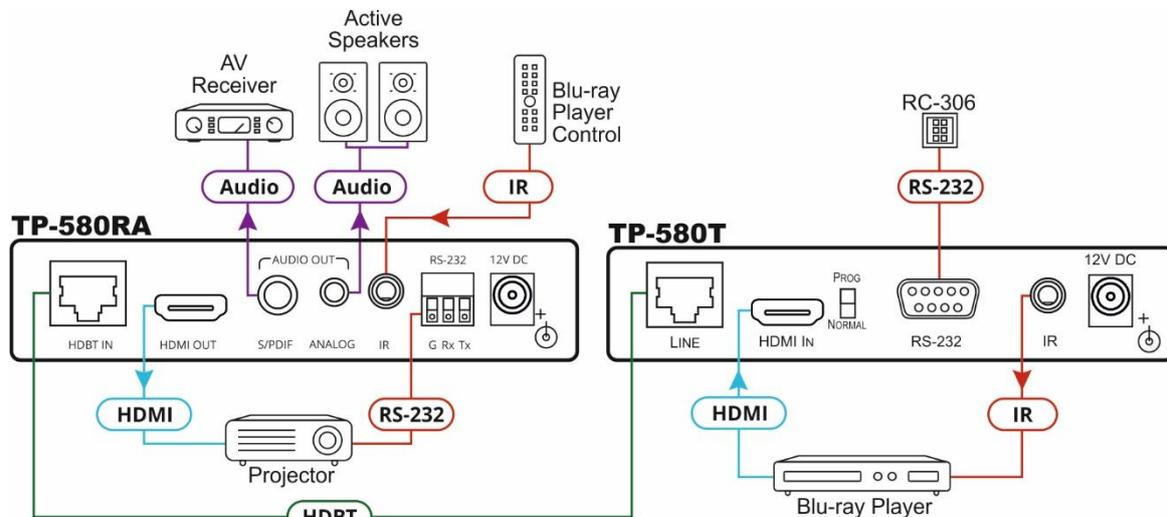

Figure 2: Connecting the TP-580RA HDMI Line Receiver
You can use the **TP-580RA HDMI Line Receiver** and a compatible transmitter, (for example, the **TP-580T HDMI Line Transmitter**) to configure an HDMI transmitter/receiver system, as shown in the example in Figure 2.
1. Connect the HDMI OUT connector (8) to the HDMI acceptor, (for example, a projector).
2. Connect the RS-232 3-pin terminal block (12) to the device to be controlled, (for example, the projector that is controlled by the **RC-306**).
3. Connect the IR 3.5mm mini jack (11) to an IR sensor.
4. Connect the AUDIO OUT (10) 3.5mm mini jack and/or AUDIO OUT S/PDIF (9) connector to the audio acceptors (for example, amplified speakers).
6. Connect the supplied power adapter to the 12V DC Power Connector (13) and plug the adapter into the mains electricity (not shown in Figure 2).